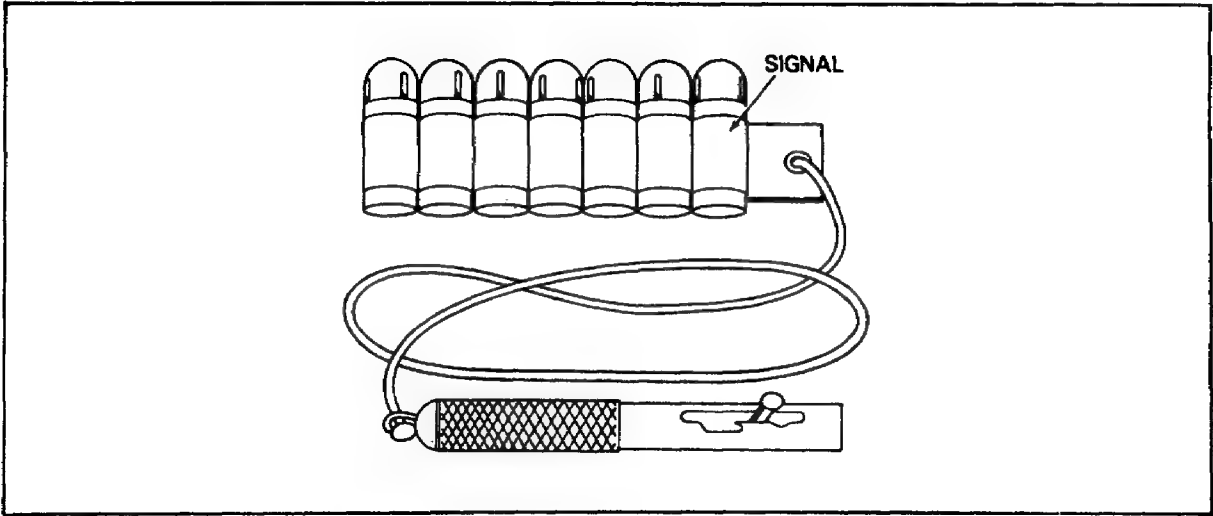

Figure 105. Signal Kit, Personnel.
**Signal Kit, Personnel.** The signal kit, personnel (Figure 105) is also a hand-fired ground signal. It consists of a hand-held projector (launcher) and seven illumination signal cartridges. The projector is 4 inches long and approximately 1 1/2 inches in diameter. The signal cartridge is slightly longer than 2 inches. The base color of the signal cartridge is the same as the color of the signal produced. Signal cartridges are available in red, green, white, and amber. The projector fires the cartridge to an altitude of 360 feet, where it ignites. It burns for five seconds as it falls.